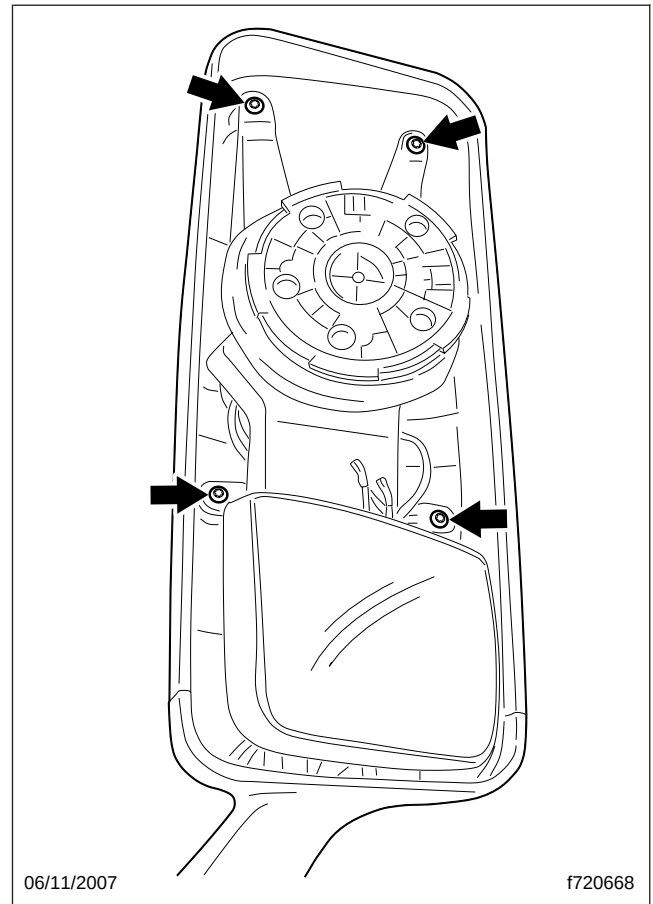

Fig. 1, Back Cover Fasteners
- 8.3 Make sure that the cover is tightly seated on the mirror arm, then attach it to the arm with four Torx screws; see Fig. 1. Tighten the screws 13 to 17 lbf-in (145 to 190 N·cm).